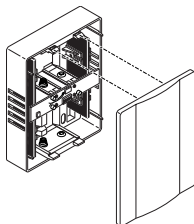

Figure 2
2. **Remove chime cover.** Pull firmly as shown in Figure 2.